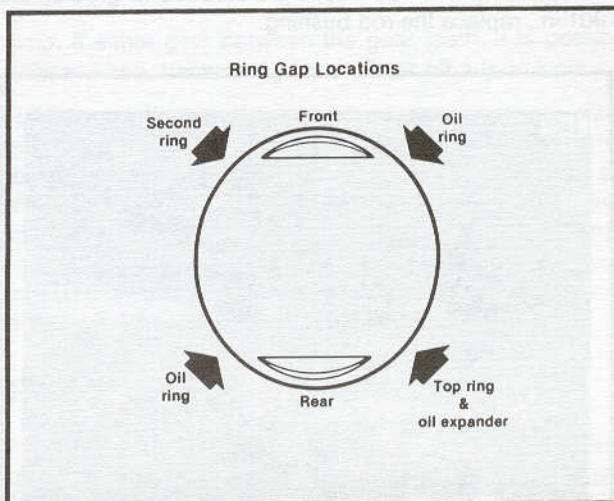

Figure 3-33. Position Ring Gaps
2. See Figure 3-33. Be sure the piston ring end gaps are properly positioned.
3. See Figure 3-33. Apply engine oil to the piston grooves. Install the new rings on the piston making